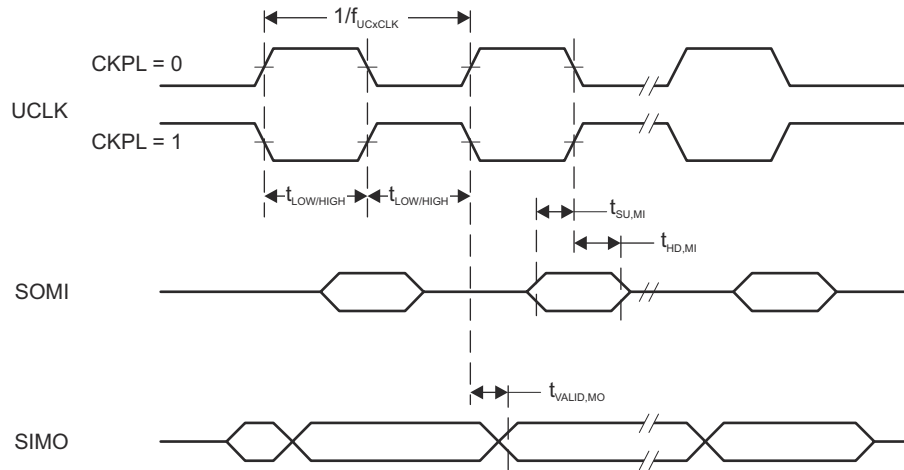
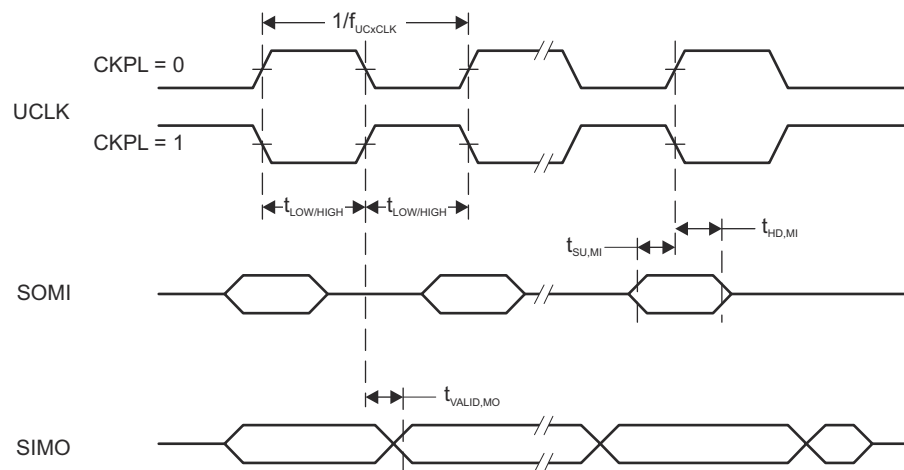

Figure 8-10. SPI Master Mode, CKPH = 0
Figure 8-11. SPI Master Mode, CKPH = 1
(2) Specifies the time to drive the next valid data to the SIMO output after the output changing UCLK clock edge. See the timing diagrams in 8-10 and 8-11.
- (3) Specifies how long data on the SIMO output is valid after the output changing UCLK clock edge. Negative values indicate that the data on the SIMO output can become invalid before the output changing clock edge observed on UCLK. See the timing diagrams in Figure 8-10 and Figure 8-11.